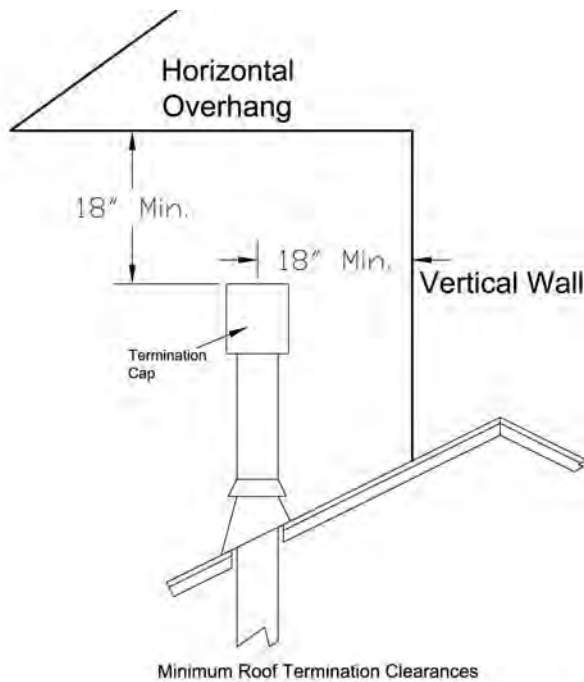

Figure 6: Termination Cap clearances
- 🔥 All termination caps must be no less than 18" (457mm) horizontally from any roof or vertical surface. See Figure 6.
- 🔥 The termination must fall within the area shown in Figures 6 & 7.
- 🔥 All horizontal terminations must also comply with the clearance specifications to adjacent structures outlined in Figure 6.